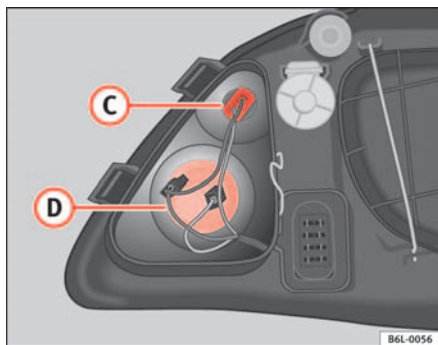

Fig. 147 Indicator lights
- Turn the lamp holder to the left and remove from casing ⇒ fig. 147 ②.